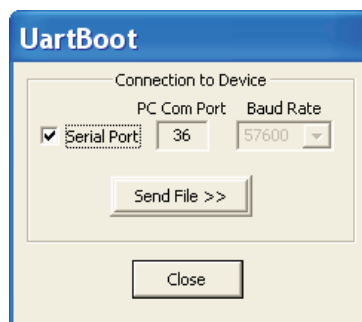

Figure 5. Running UartBoot.exe
3. Run the UartBoot.exe (Figure 5) and select the 57600 in “Baud Rate”.